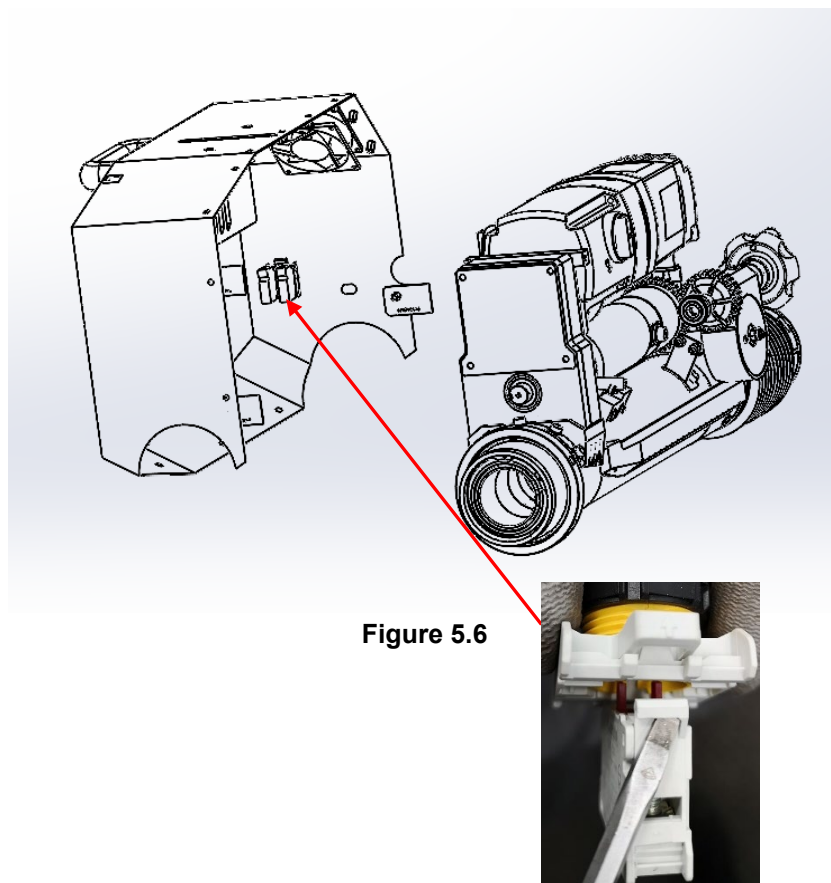

Figure 5.6
5.1.12 Proceed to remove the electrical connection with the emergency stop button, as shown in figure 5.6.